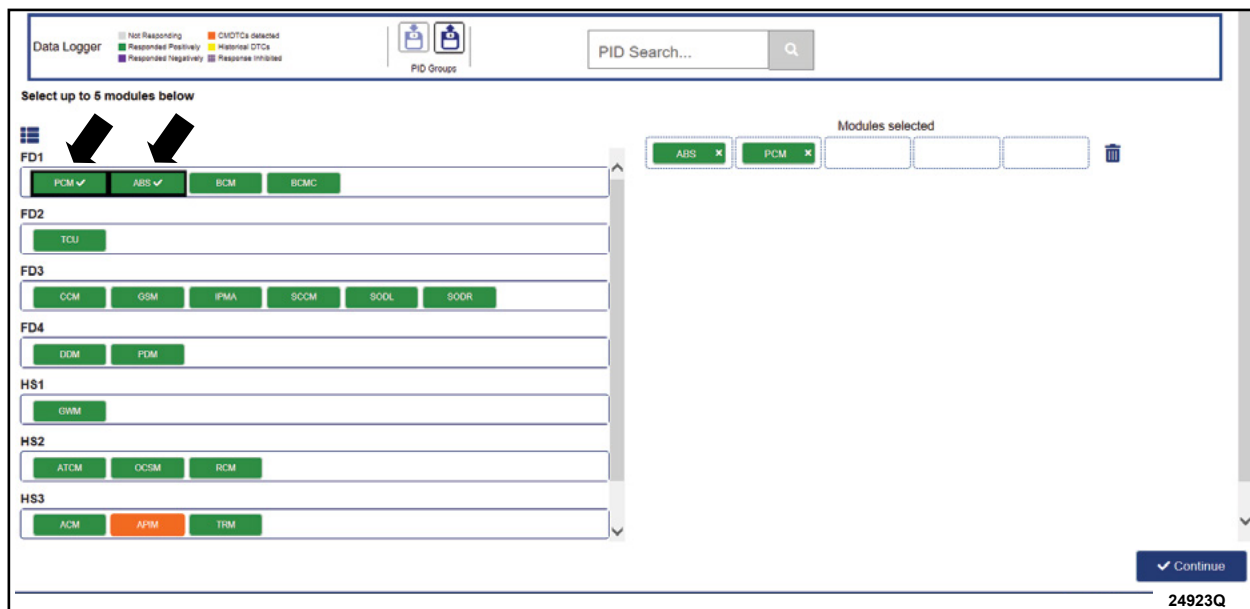

FIGURE 1
6. From the list on the LH side of the screen, select **PCM and ABS**, then click **Continue**. See Figure 1.